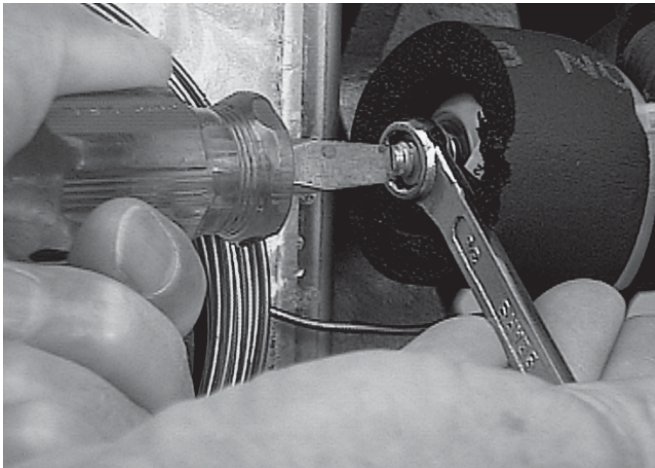

Figure 23. EPR Valve Adjustment
6. Loosen the lock nut on the E.P.R. valve and using a small screwdriver, turn the valve stem 1/4 (90°) turn counter clockwise for more cooling or clockwise for less cooling. Figure 23.